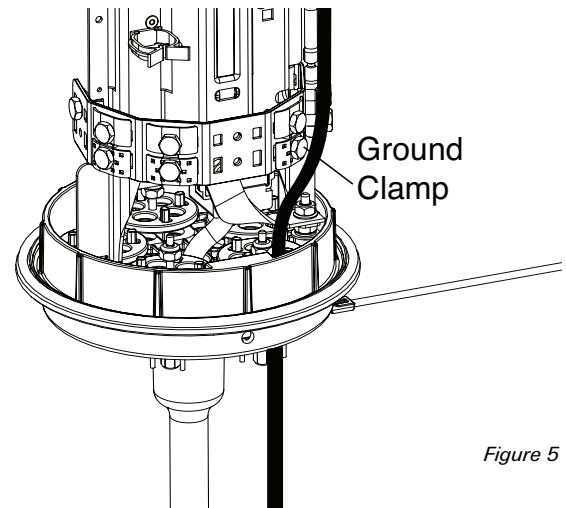

Figure 5
4. Insert an appropriate length of drop wire through grommet and route it past the front of the ground clamp. (Figure 5)